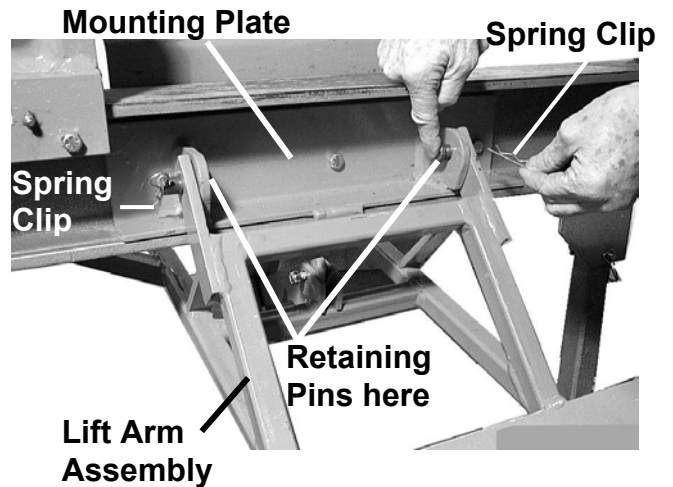

Figure 10
- Attach the Lift Arm Assembly to the Mounting Plate using two retaining pins and spring clips (Figure 10).